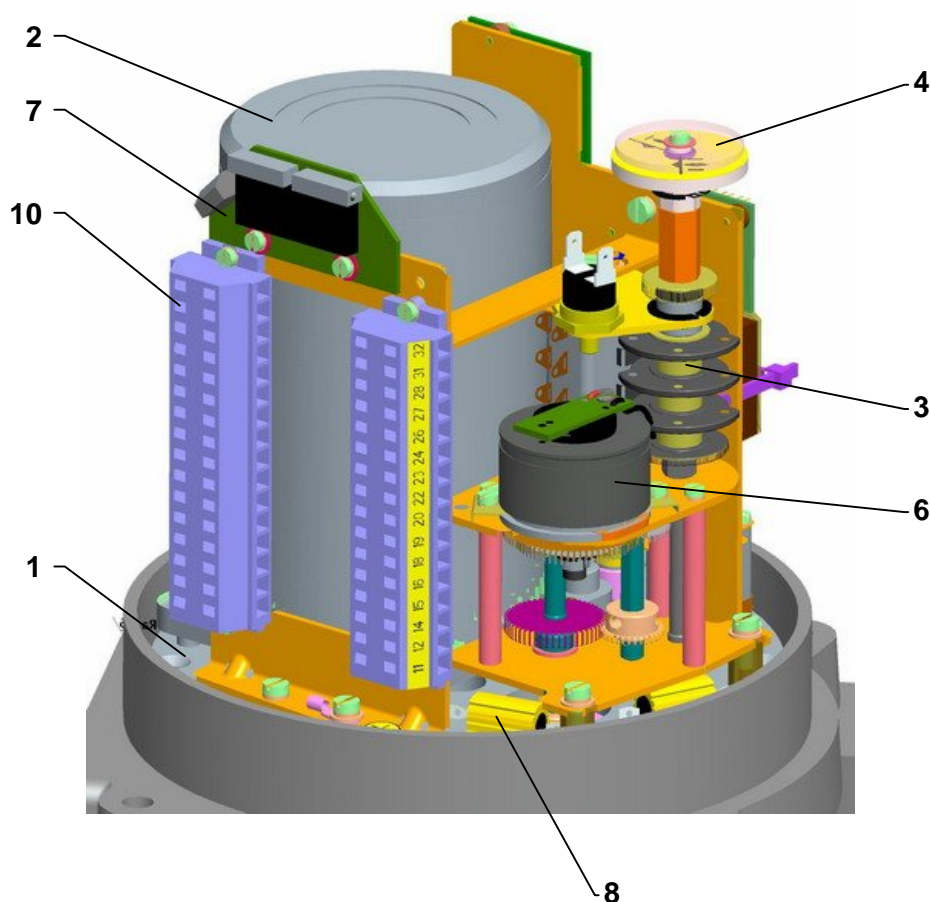

Fig.1
The **control part (Fig. 1, 1a, 1b, 1c )** is placed on a control board (1) consisting of:
- electric motor (2) (at single-phase version with capacitor)
- torque unit (5) (controlled with a worm axial shift)
- position-signaling unit (3) with a position transmitter (6) - resistive, capacitive or electronic position transmitter (7) and with a mechanical local position indicator (4)
- space heater (8) with thermal switch
- electronic module (9)
- electrical connection through terminals (10), located in the control area and cable glands resp. connector with cable glands